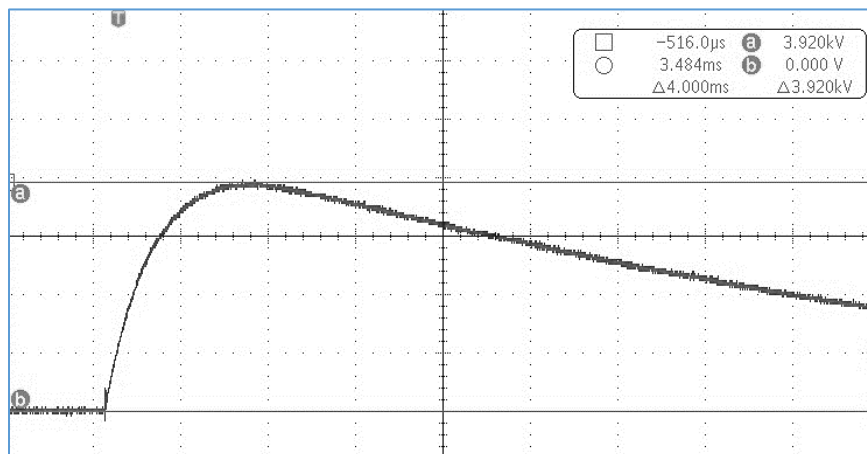

Figure 6 Vpeak = 3.92kV with 25mH inductor
- b. Vpeak about 3.92kV, see figure 6 (When selected inductor is 25mH).